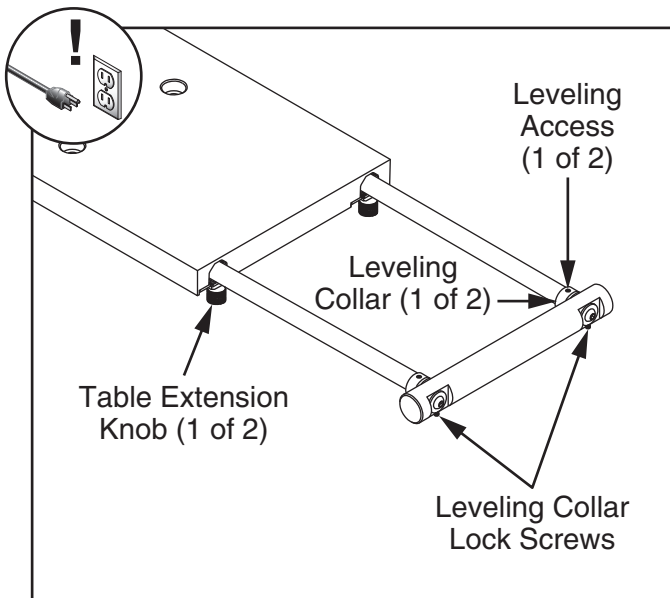

Figure 52. Location of table extension components.
2. Loosen (2) table extension knobs and fully extend table extension (see **Figure 52**).
4. Loosen (2) leveling collar lock screws under handle (see **Figure 52**), then use a hex wrench inserted in the leveling access hole to rotate leveling collar until handle just touches straightedge.
5. Retract table extension and tighten (2) table extension knobs.